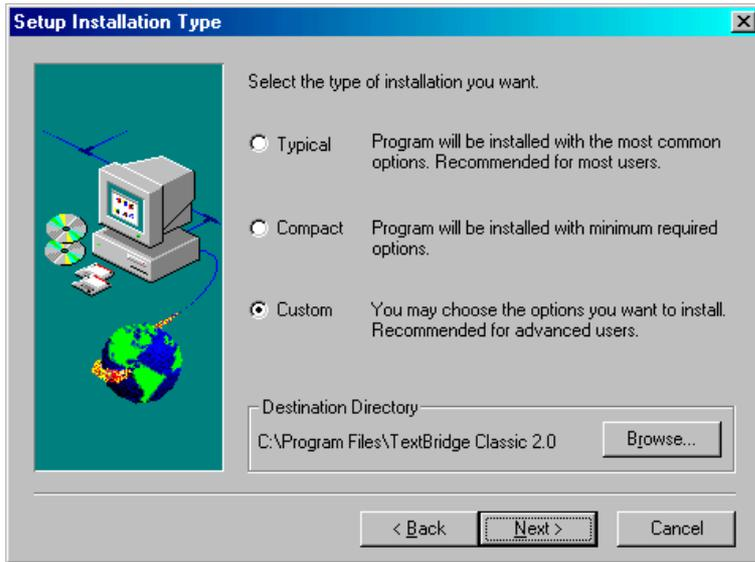

Figure 17: Installing TextBridge Classic
5. Click on 'Yes' to accept the license agreement and continue with the installation. Figure 17 will appear.